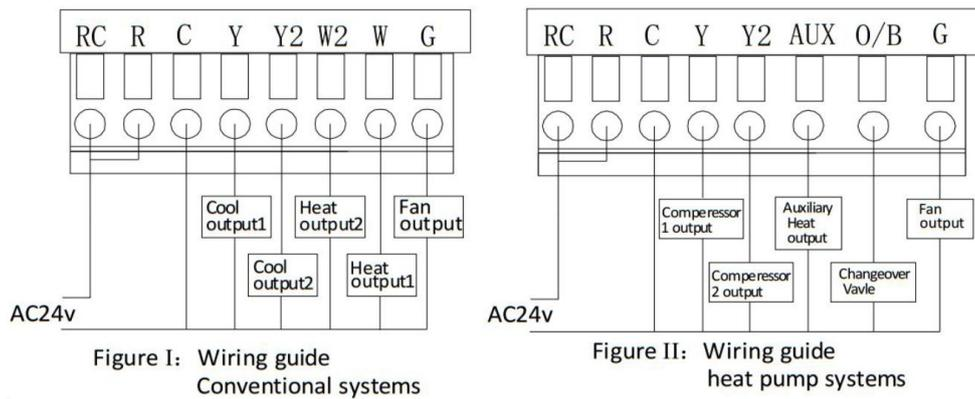

Figure 36. MCO Heat pump thermostat wiring.
**Step 2:** Check all the wires, and then evenly push the faceplate into the wall plate till the wall plate and the faceplate fit tightly (Figure 36).